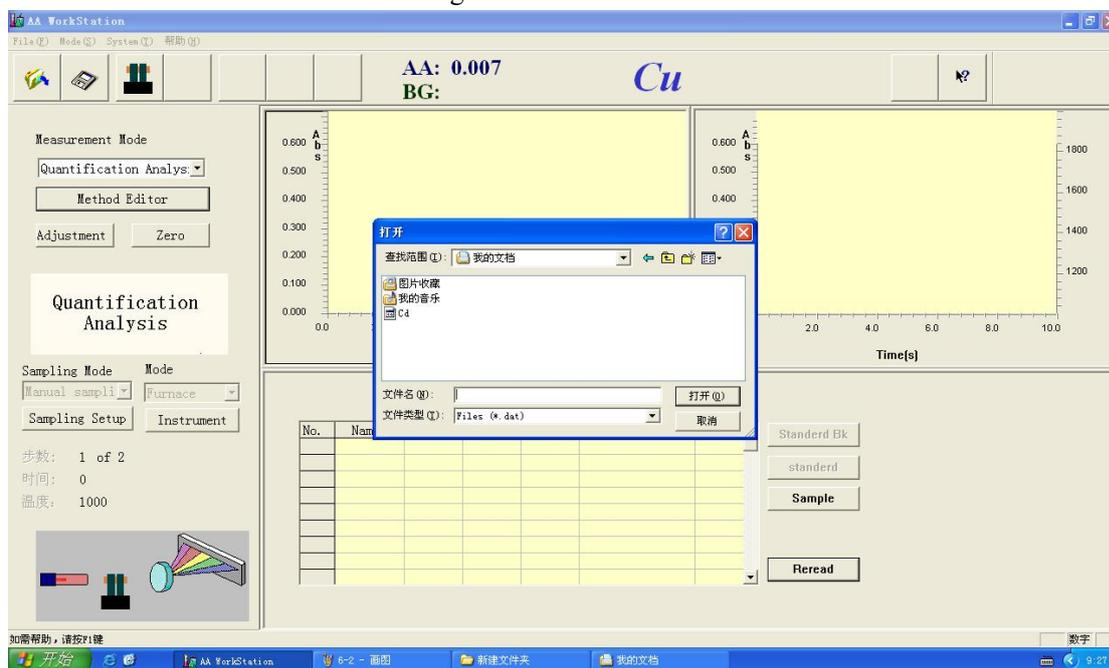

Figure 6-3
2. Select the file name as shown in Figure 6-3